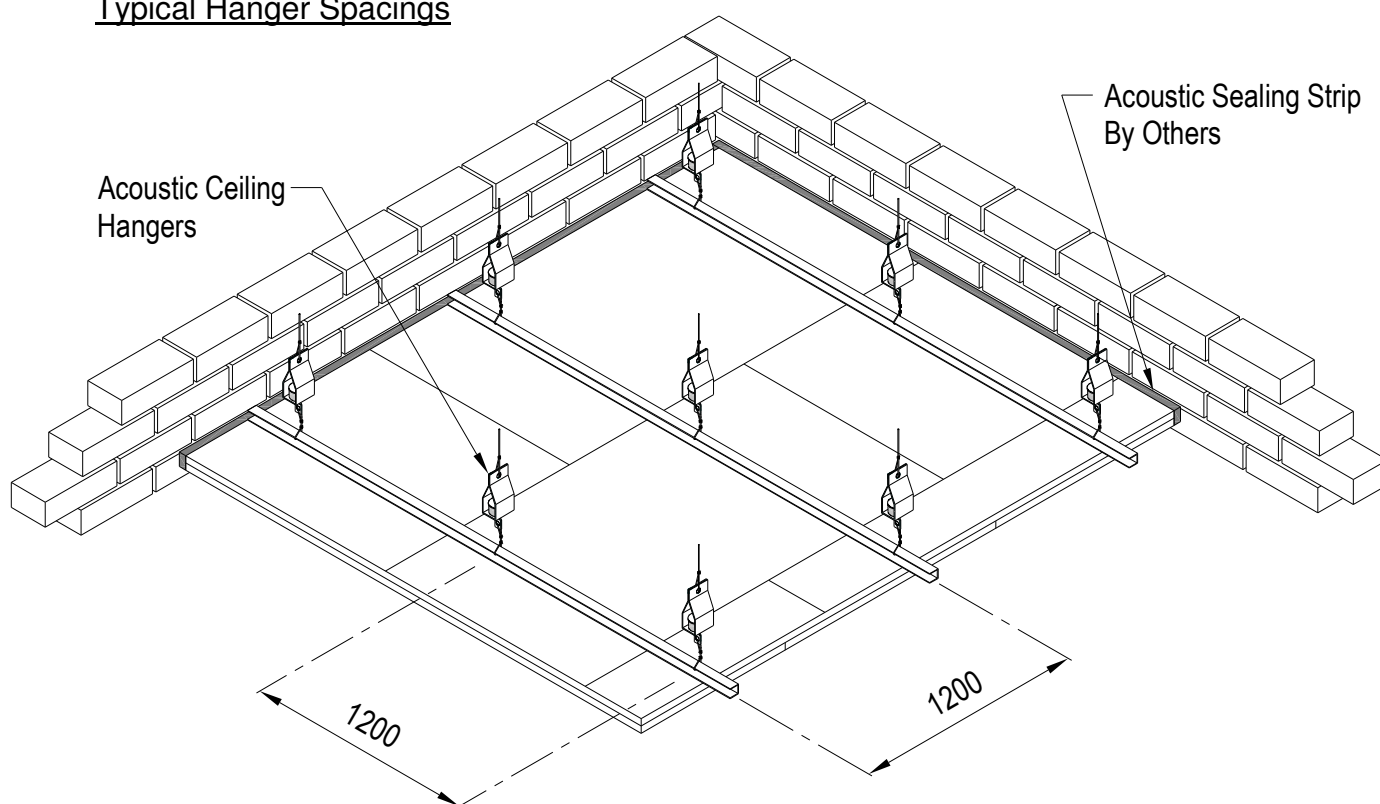

Figure 2
- 3) An example using two layers of 19mm thick plasterboard with a maximum ceiling load of 50 kg m² will require 2 x ACH utilizing grid spacings of 1200mm (See Figure 2). This will provide approximate hanger deflections per m² of 2mm for ACH/50 and 1mm for ACH/100.